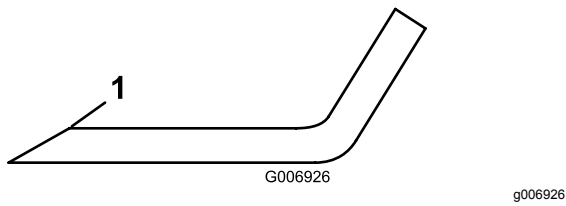

Figure 61
3. Inspect the cutting edges of all blades. Sharpen the cutting edges if they are dull or nicked. Sharpen only the top of the cutting edge and maintain the original cutting angle to make sure of sharpness (Figure 61). The blade will remain balanced if the same amount of metal is removed from both cutting edges.